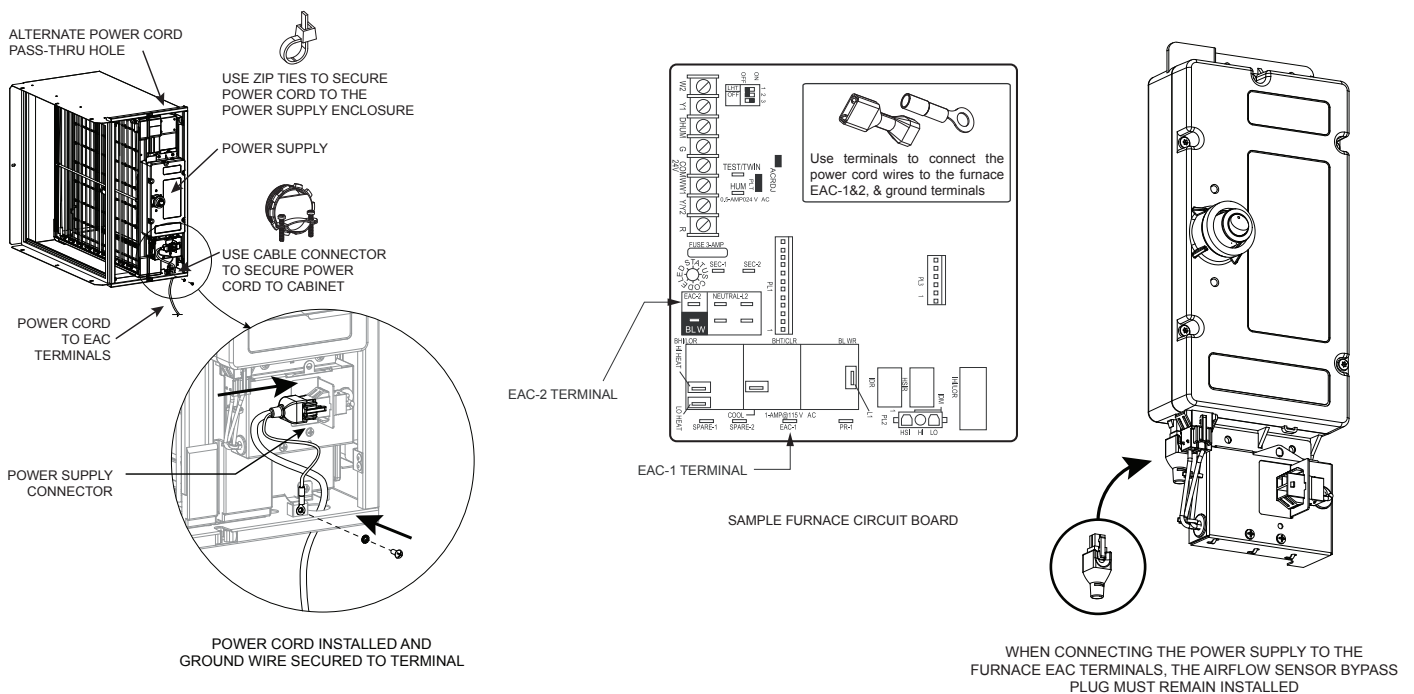

Fig. 9 - Air Purifier Electrical Connections
- Connect the power cord to the power supply connector (see Fig. 9).
- Secure the power cord ground wire to the ground terminal on the cabinet using the screw provided in the ground terminal (see Fig. 9).
**NOTE:** The air purifier must only be powered when airflow is present. The furnace control EAC spade connections provide power only when the furnace blower is operating. When connecting to EAC terminals, the airflow bypass plug must be installed for proper operation (see Fig. 9). If EAC connections are not available, contact your local HVAC distributor for alternative options.